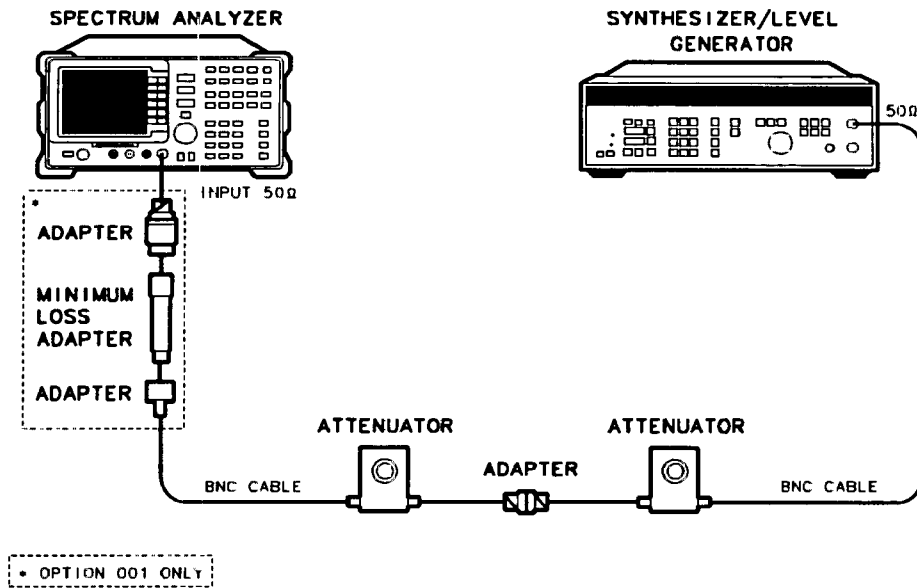

Figure 3-12. Reference Level Accuracy Test Setup
2. Connect the equipment as shown in Figure 3-12. Set the HP 355D to 10 dB attenuation and the 355C to 0 dB attenuation.